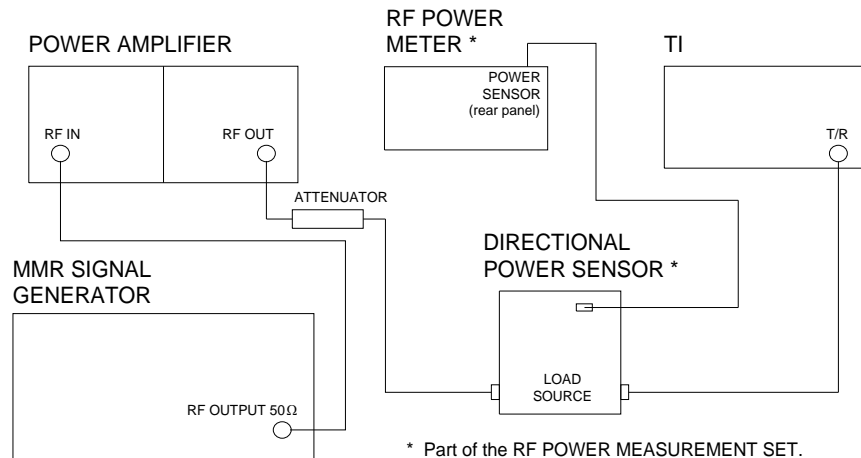

Figure 2.
4.5.1 Connect equipment as shown in Figure 2.